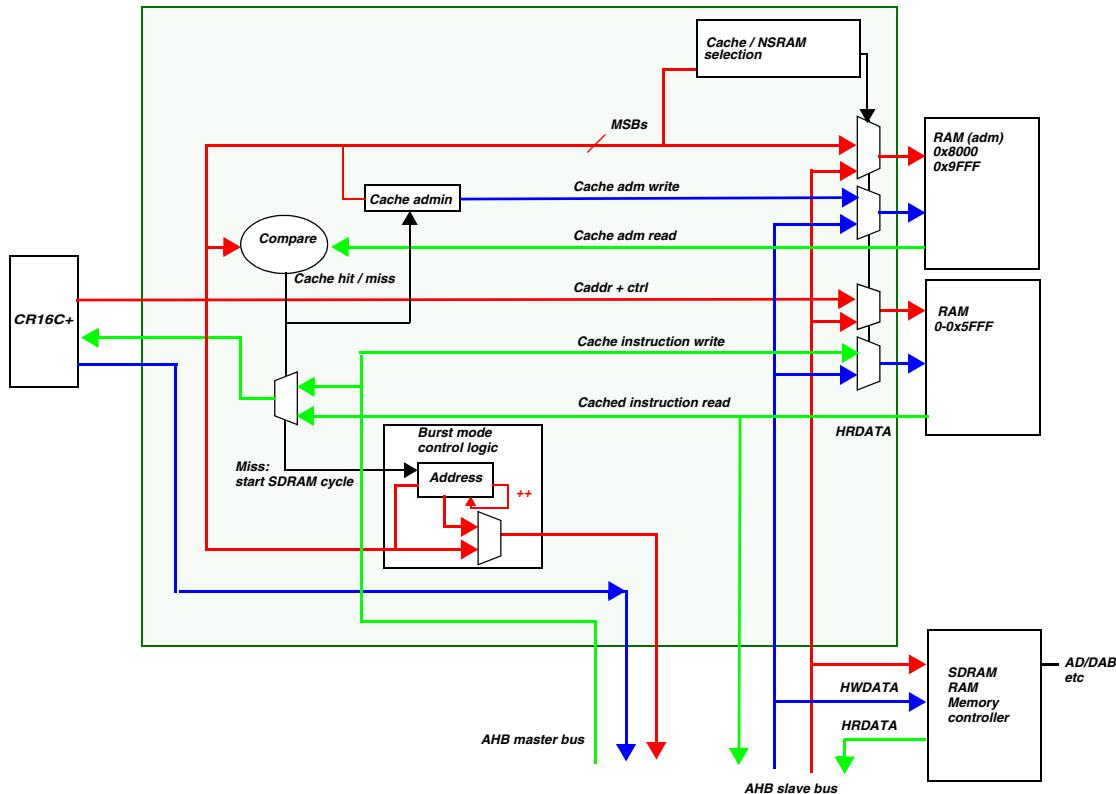

Figure 40 SC14452 Cache controller block diagram
The cache controller (Figure 40) uses non-shared RAM from 0 to 0x5FFF for either iCache (IC), dCache (DC) or non shared memory. See "SC14452 CR16C+ Memory Map" on page 166